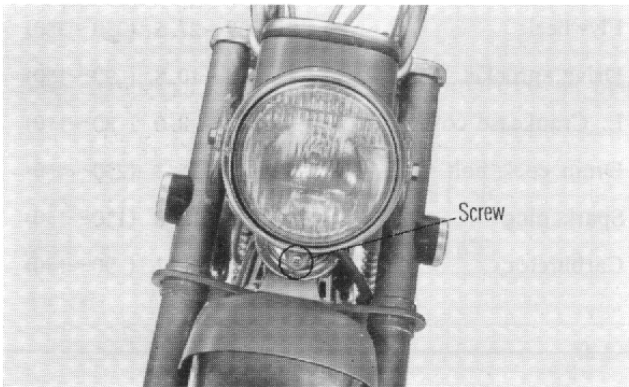
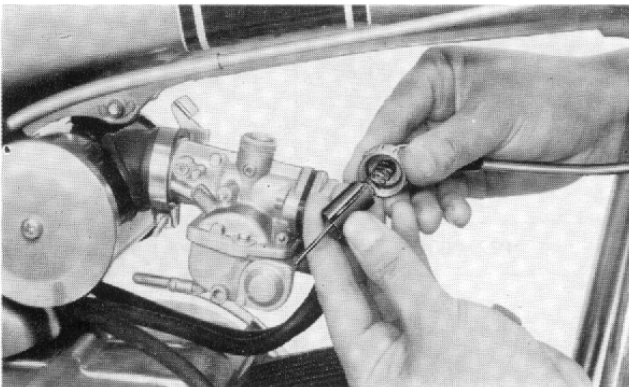

Fig. 59
Fig. 60
- (3) Remove the headlight assembly and disconnect all electrical leads after removing the head light cover by removing the screw at the bottom (Fig. 59).
- (4) Uncouple the speedometer cable and disconnect the front brake cable.
- (5) Disconnect the throttle cable by removing the carburetor cap and disengage the cable from the throttle valve (Fig. 60).